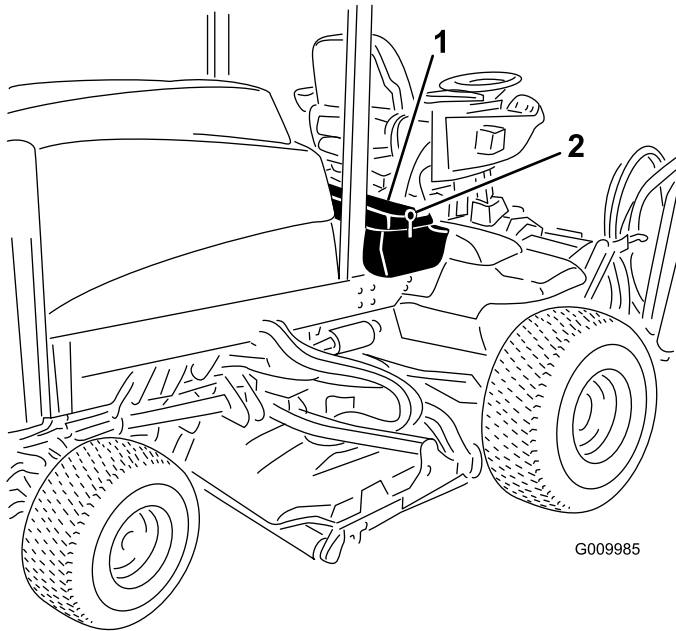

Figure 41
1. Unlatch and raise the operator's console panel (Figure 41).